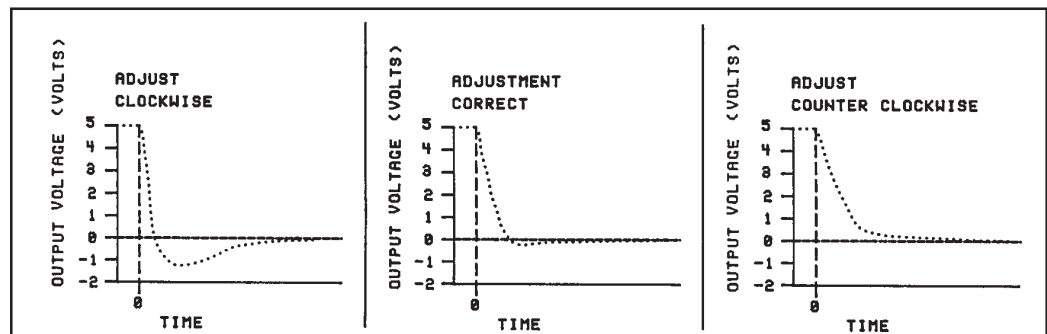

Figure 3-6 Fast Response Adjustment
- c. The behavior of the flow signal during this transition between 100% and 0% flow indicates the adjustment required of the anticipate potentiometer. Refer to Figure 3-6.
- c. The behavior of the output signal during the transition between 100% and 0% flow indicates the adjustment required of the anticipate potentiometer. Refer to Figure 3-6.